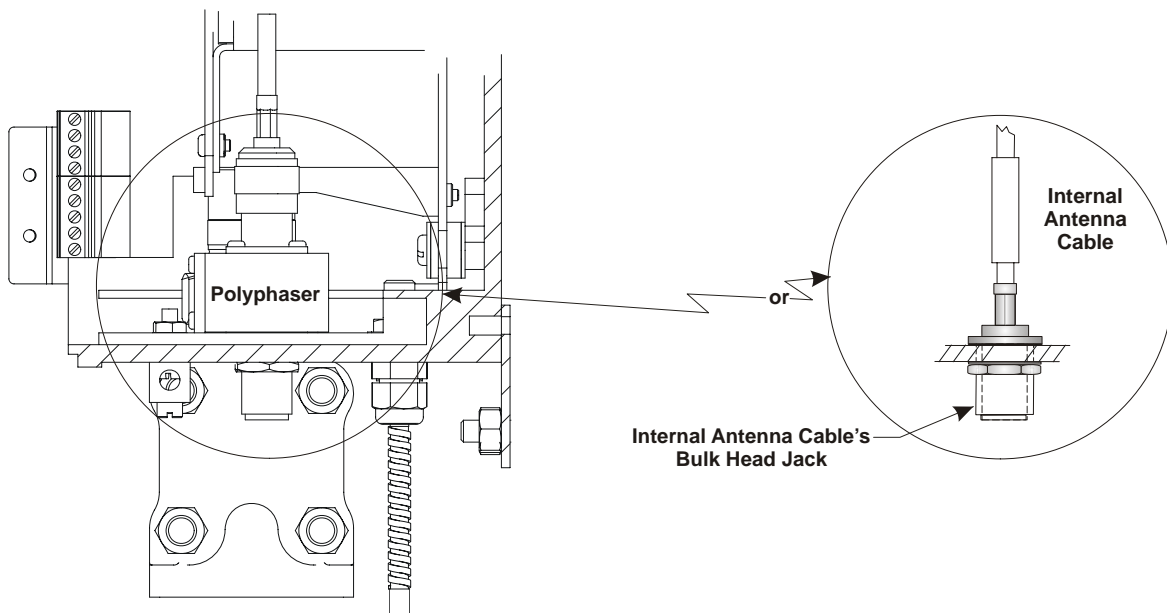

Figure 6- Partial View - ControlWave GFC-CL with/without Polyphaser
6. Connect the user supplied antenna cable to either the Polyphaser or Bulk Head antenna cable connector jack on the bottom of the **ControlWave GFC-CL** (see Figure 6).